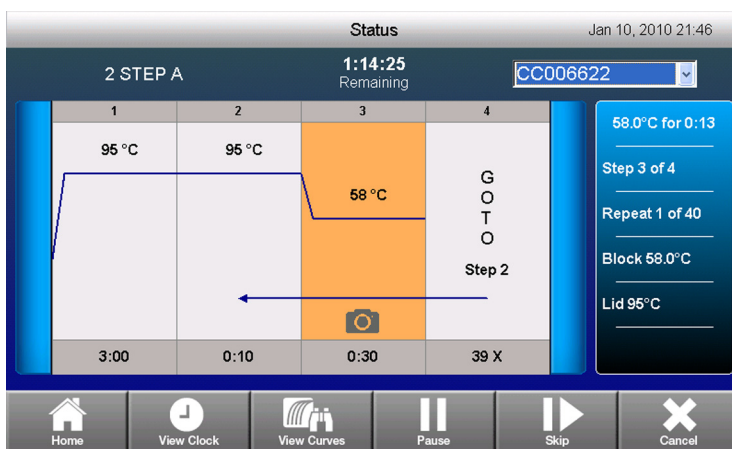

Figure 43. Monitoring a run in the Status screen.
- Status.** The Status screen displays the run in progress and presents options to View Clock, View Curves, Pause, Skip, or Cancel the run. (Figure 43)